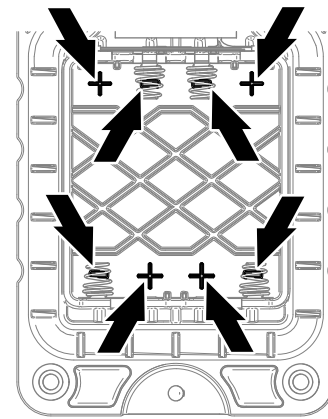

**Figure 41**
1. Remove the 6 screws securing the cover halves of the handheld remote together, and remove the back cover (Figure 41).
4. Ensure that the steel gasket and rubber seal are seated in the channel in the cover half and align the back cover to the front cover (Figure 41).
5. Align the lanyard ring over the lanyard pin (Figure 41).
6. Assemble the back cover to the and front cover with 6 screws (Figure 41).